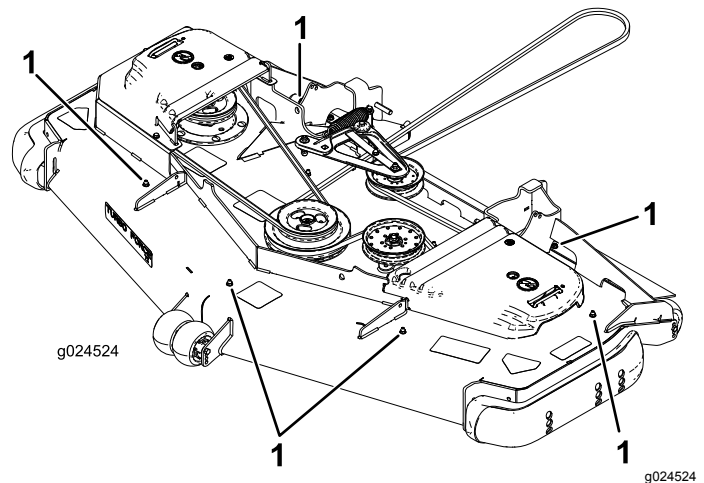

Figure 1
7. Remove the 6 hex-socket screws (5/16 x 3/4 inch) and 6 flange nuts (5/16 inch) plugging the exposed mounting holes in the deck (**Figure 1**).
- Install the correct kicker baffle to each chamber using 1 carriage bolt (3/8 x 7/8 inch) and 1 flange nut (3/8 inch) as shown in Figure 1.